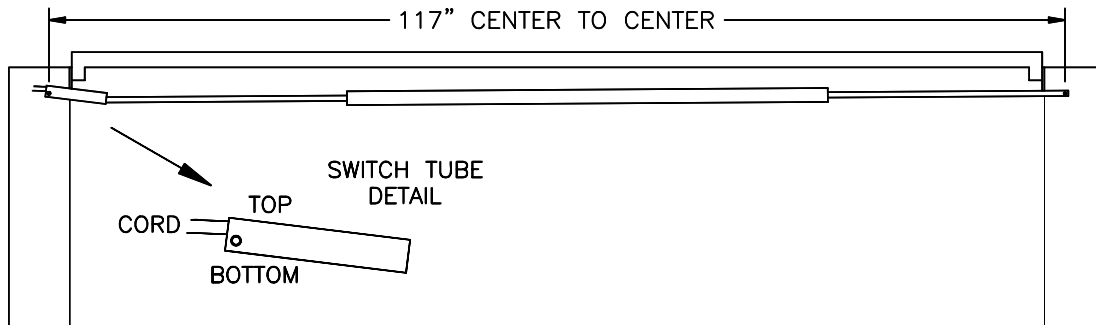

Fig. 1 Switch Mounting
2. Attach the Switch Tube to the column using the 3/8" dia. x 1 1/2" lg. shoulder bolt and 5/16 -18 keps nut. The switch cord should be above the pivot hole as shown in the **Switch Tube Detail, Fig 1.**